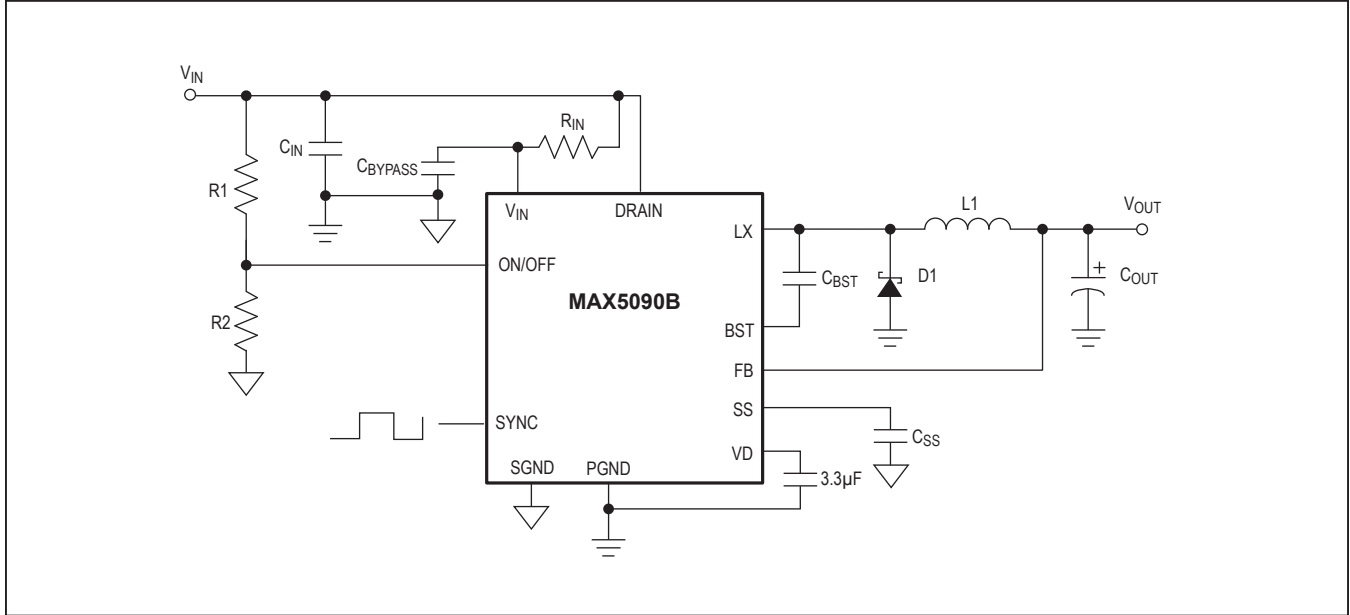

Figure 4. Fixed Output Voltage
Table 2. Typical External Components Selection (Circuit of Figure 4)
**Table 2. Typical External Components Selection (Circuit of Figure 4) (continued)**